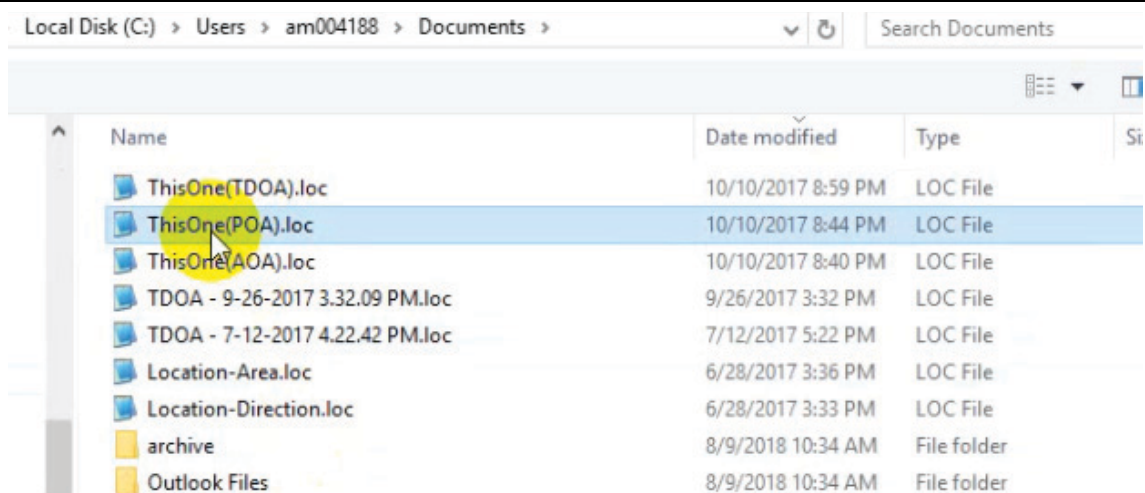

**Figure 4-17.** Click .loc file to Import
2. Click a .loc file as shown in Figure 4-17.